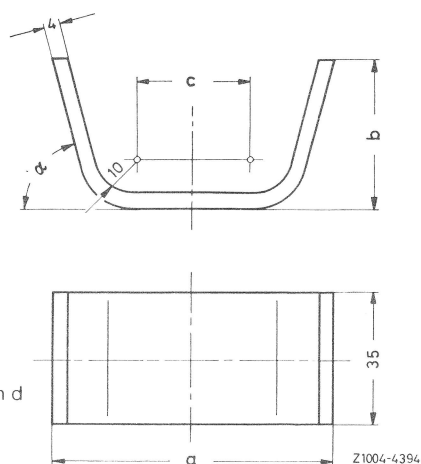

Fig. 5
Holding device for piston	self-made according to Fig. 5
Note: The holding device (23) is self-made according to dimensions in Fig. 5.